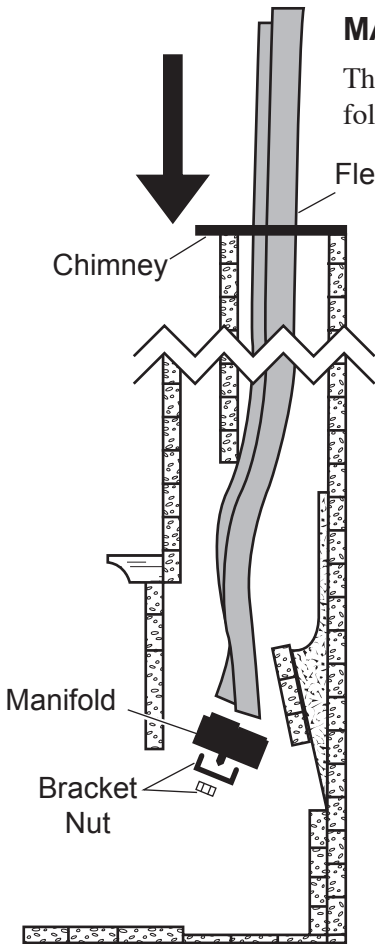

Figure 10 - Placing Manifold Into Fireplace
3. Route flex vent through chimney from above. See Figure 10. Leave an extra 3" (914mm) at the top.